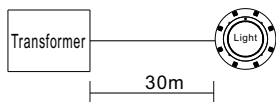

Figure 2
- The cables connecting the lights and the transformers must be at least 6mm² and the distance between them must not exceed 30m (Figure 2); otherwise the lights will not function properly.